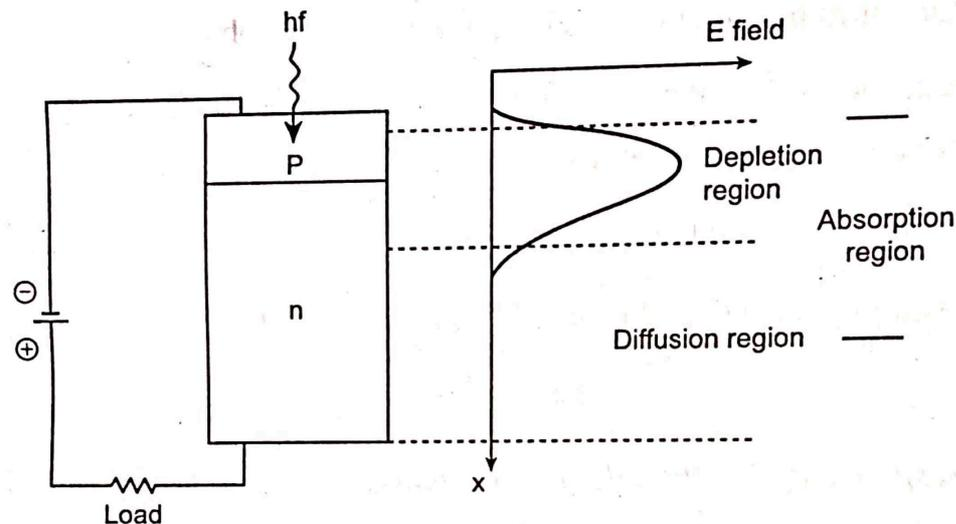

**Fig 7.3 Responsivity against wavelength characteristics of an ideal silicon photodiode**
- ✦ The *responsivity* is *directly proportional* to the *quantum efficiency* at a *particular wave length*. The ideal responsivity against wavelength characteristic for a silicon photodiode with unit quantum efficiency is illustrated in Fig 7.3.